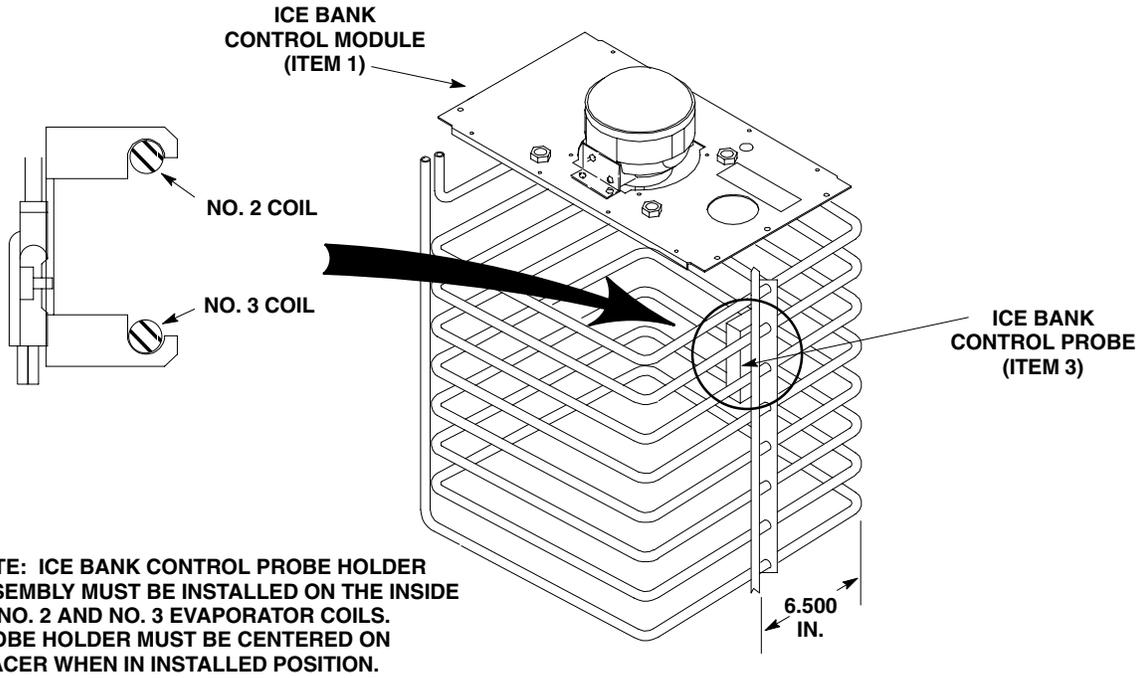

FIGURE 2. PROBE LOCATION
6. Open corner of the unit just far enough to allow routing the large connector labeled “D” end of the PROBE, ICE BANK CONTROL (item 3) cable from the top down through corner of the unit and into lower commitment of the unit.
10. Install ice bank control probe assembly on the evaporator coils as shown in Figure 2.
17. Connect unit wiring harness green ground wire to agitator motor assembly bracket and secure with SCREW, SELF-DRILLING (item 7). ***The unit wiring harness cable red electrical wire with connector on it's end will not be used.***
19. Install LABEL, HAZARD SHOCK (item 8) on the agitator motor assembly bracket.